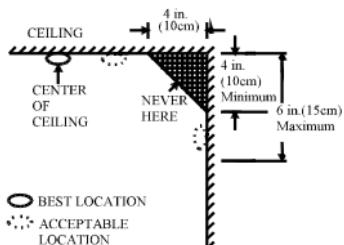

Figure 4: Recommended best and acceptable locations to mount smoke and heat detectors
- ◆ Install smoke and heat detectors as close to the center of the ceiling as possible. If this is not practical, put the detector on the ceiling, no closer than 4 inches (10 cm) from any wall or corner, as shown in Figure 4.
- If ceiling mounting is not possible and wall mounting is permitted by your local and state codes, put wall-mounted detectors between 4 and 6 inches (10 ~ 15 cm) from the ceiling, also see Figure 4.